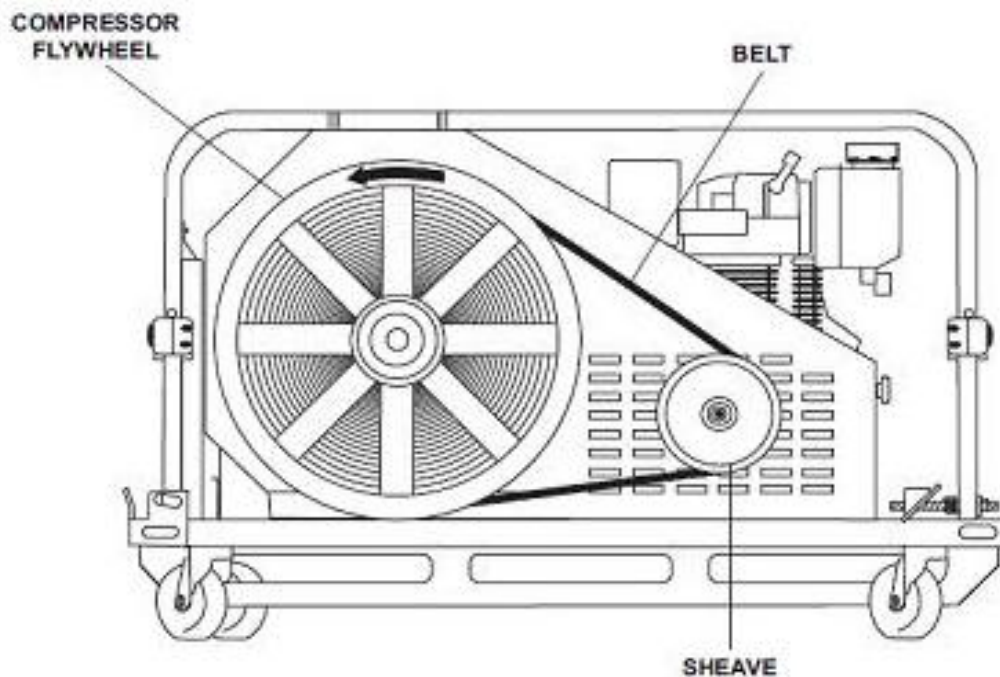

Figure 551-8ST-1004\_12 (Drive System Assembly)
a. Check the drive system assembly before use. (Figure 551-8ST-1004\_12)